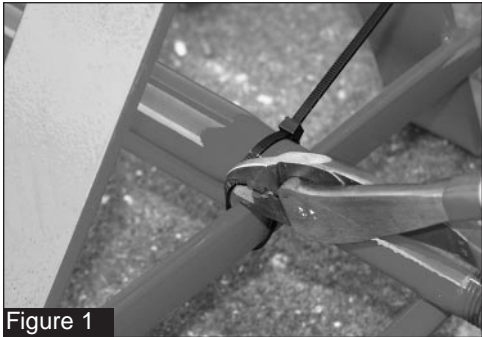

Figure 1
1. Remove all packing materials. Remove the bender handle from the lower frame by cutting the cable ties securing the handle to the frame. See Figure 1.